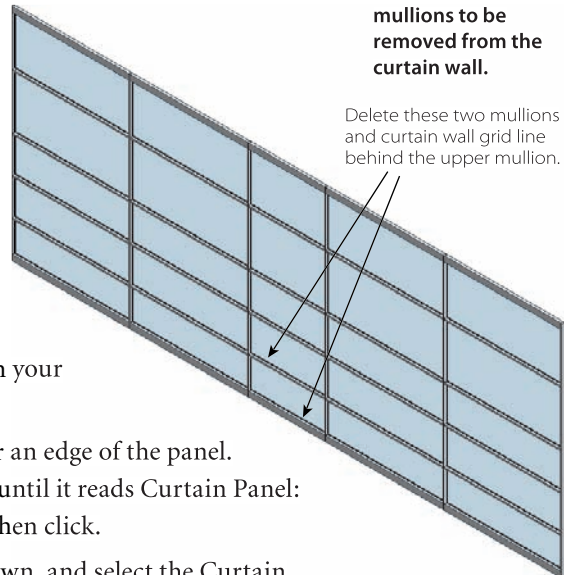

Figure 3.85
7. Click the curtain wall grid line, and the grid line will be deleted (Figure 3.85). You can now replace the panel with your curtain wall door.